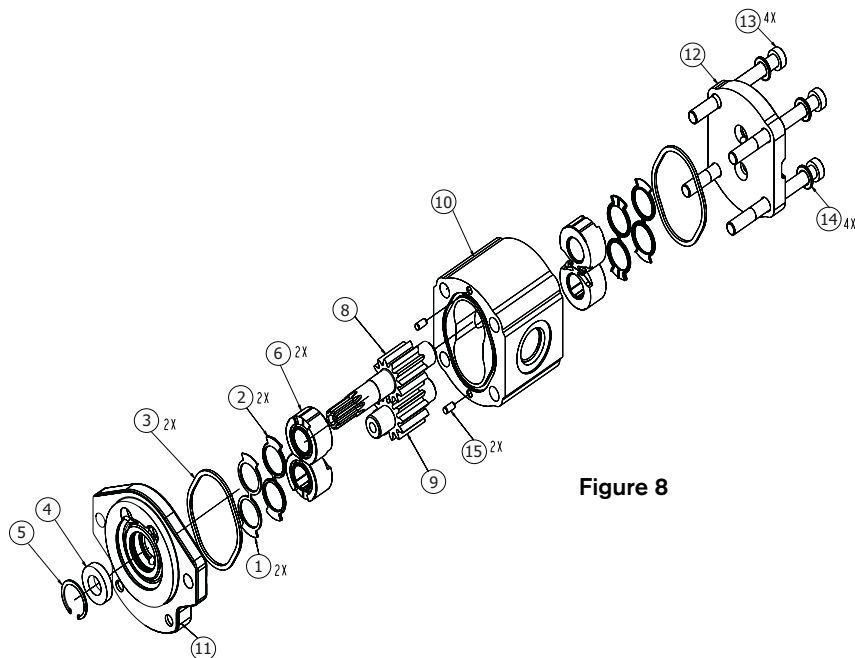

Figure 8
**Spare Parts (reference Fig. 8)**